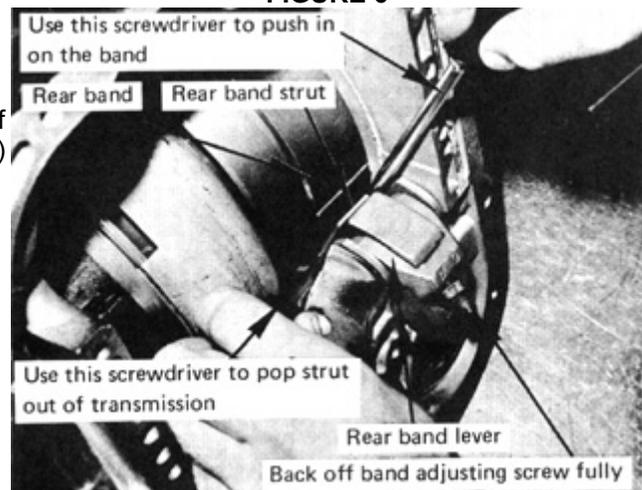

FIGURE 7
STEP 6. A-727 only. For A-904 or A-998 proceed directly to Step 9. Rear Band and Servo: Loosen rear band adjusting screw and back it out all the way. Use a long thin screwdriver off band adjusting screw fully to push in on the rear band. (See Fig. 7.) This will allow the band apply strut to drop out of place for removal. After the strut has been removed, the band apply lever can rotate down to gain access to the rear servo. (See Fig. 8.) Remove the rear servo retainer snap ring with a screwdriver. Hold the retainer in place with your other hand so the spring does not jump out and cause lost parts or injury. Remove the retainer, servo return spring and servo piston. Discard servo return spring. Remove the piston slowly to avoid splattering oil. Inspect your servo to determine which model you have:
STEP 8. Rotate band apply lever up and hold in position. Insert rear band apply strut into place. This is the reverse of the method used to remove the strut originally. (See Fig. 7.)